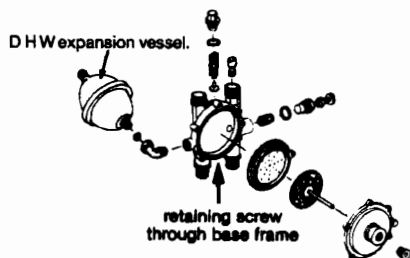

Fig. 41
Refer to fig. 41
8.18.5 Remove manifold (fig. 41) gives details of further disassembly.